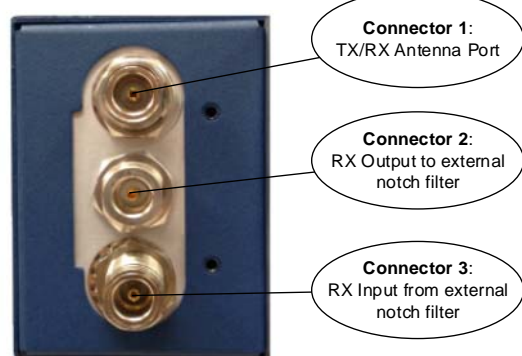

Figure 4: Internal Duplexer, Triple N connectors
2. **Connect Antenna Feed-lines.** All coaxial antenna connections are made to the Type-N connectors on the rear of the unit. Figure 4, Figure 5, and Figure 6 illustrate the antenna options available;